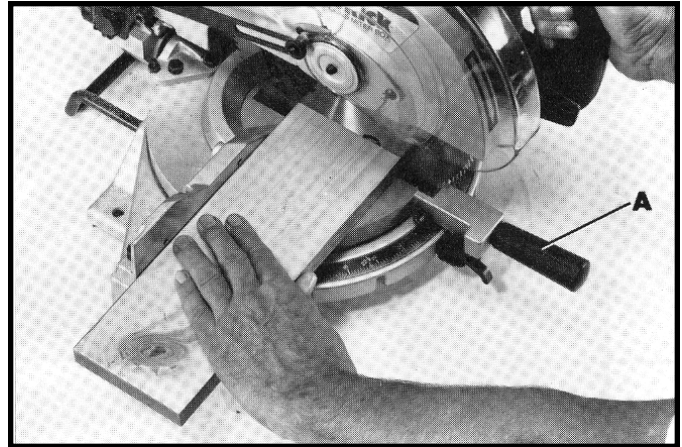

Fig. 21
1. Move the table to the 90 degree straight cut-off position, making sure the plunger is engaged in the 90 degree positive stop and tighten the lock handle (A) Fig. 21.
2. Make a cut on a piece of wood, as shown in Fig. 21.